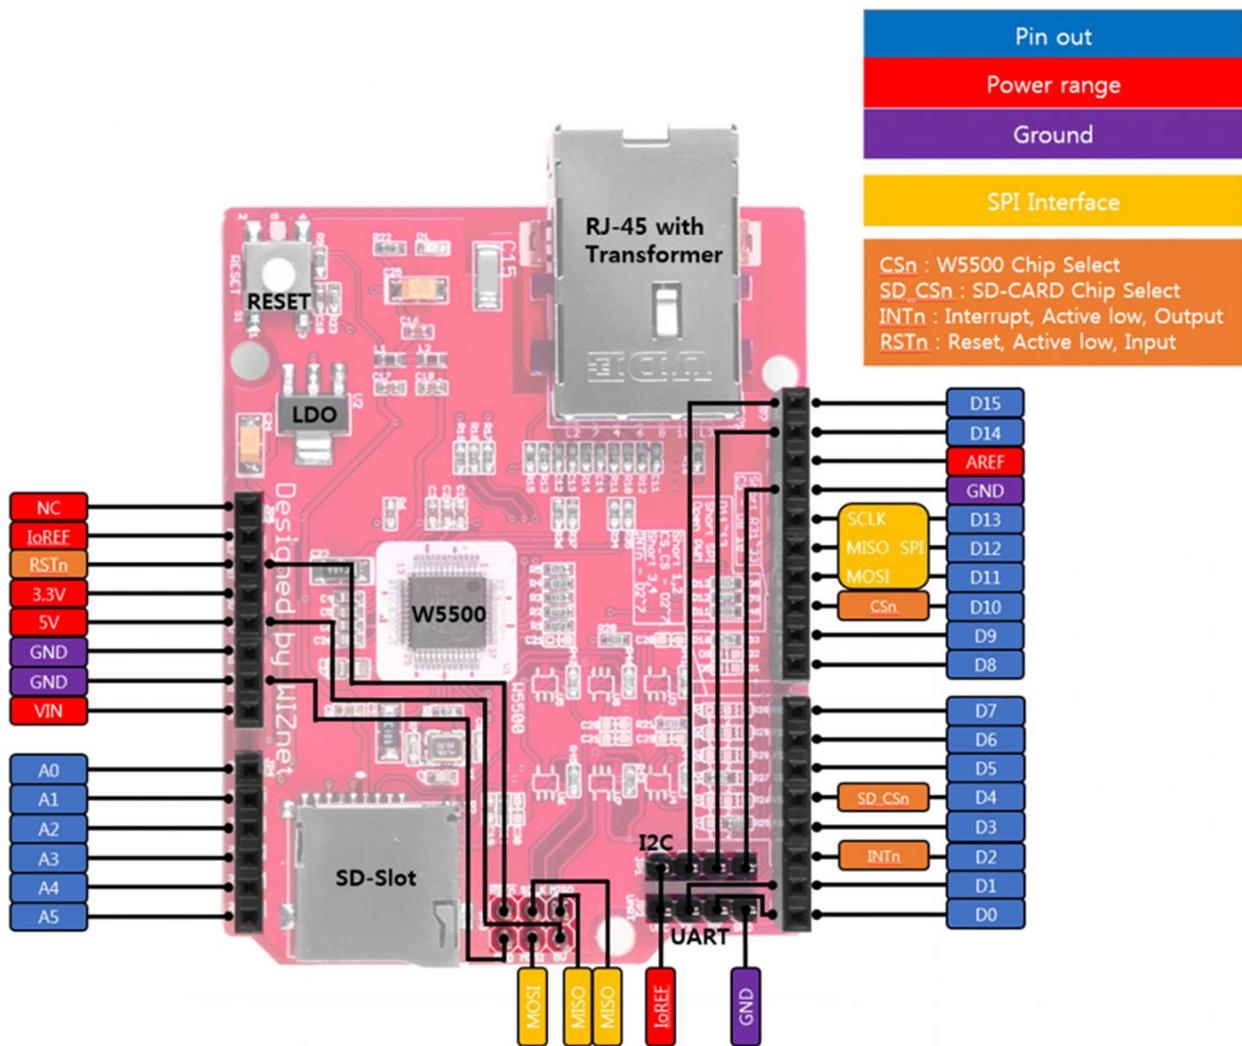

Figure 5: The pinout of the W5500 shield
As said before, the W5500 mates seamlessly with all sixteen Nucleo boards. The Figure 517 shows the shield pinout. The SPI interface is routed to D13, D12 and D11 pins, and they correspond to the same pins of the SPI1 peripheral (apart for the Nucleo-F302R8 board where those pins correspond to SPI2 peripheral). The *Slave Select* (SS) pin for the W5500 pin corresponds to the Arduino D10 pin, while the SS pin for the SD card corresponds to the Arduino D4 pin.
Looking to **Figure 5**, you can see that the D2 pin plays an important role. The W5500 IC is designed to optionally assert low the INTn pin when several events related to the network interface (e.g. IP collision, etc.) or to the single socket (e.g. connection established, data received, etc.) happen. This feature allows to configure the corresponding MCU pin as `GPIO_MODE_IT_FALLING`, so that the corresponding IRQ fires when the IC asserts low the INTn pin. This allows to write down asynchronous applications, especially if you are using the `ioLibrary_Driver` in conjunction with an RTOS (for example, the ISR may use a semaphore to wake-up a sleeping thread that starts performing operation with a socket).